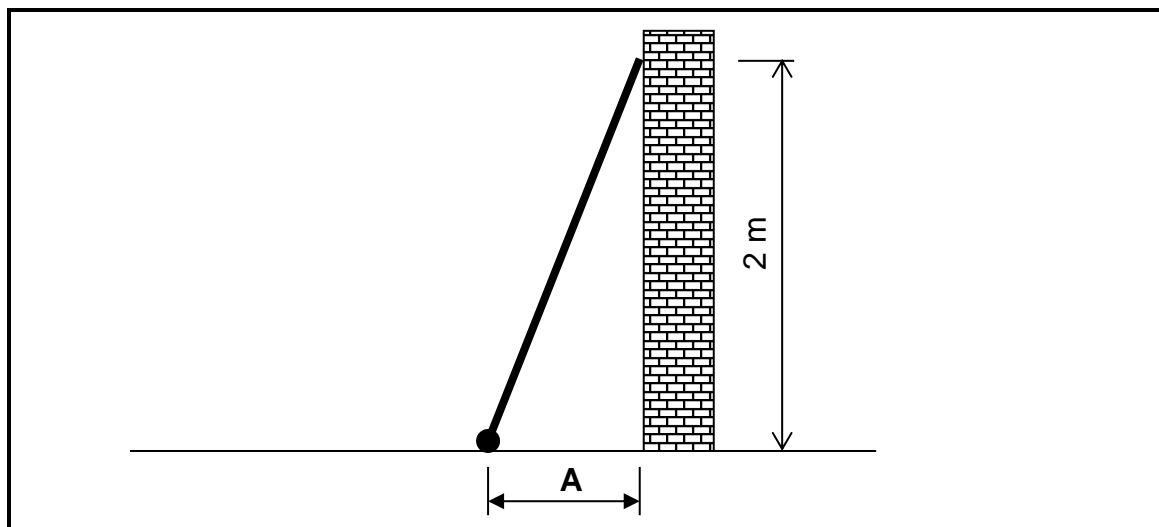

FIGURE 1.5
- 1.5 FIGURE 1.5 shows a ladder that is placed against a wall. What is the correct measurement at 1.5.A to keep it stable? Show or indicate how to achieve the ratio. (2)